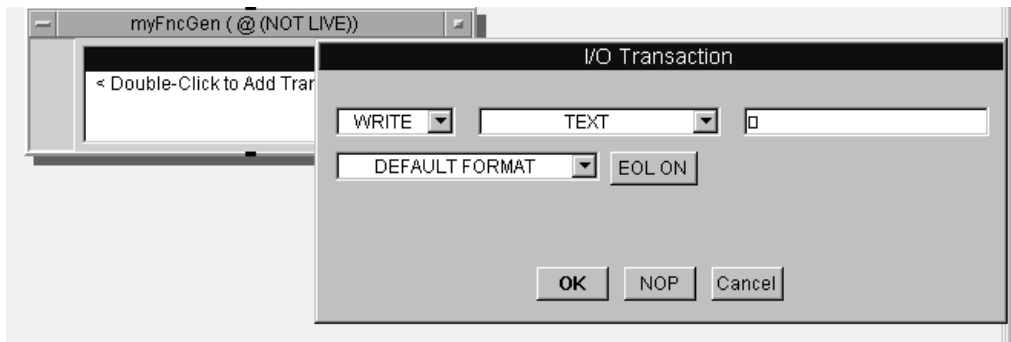

Figure 3.5. myFncGen and its I/O Transactions dialogb
14. Select Menu Bar => I/O => Instrument Manager; highlight myFncGen (@NOT LIVE) in the GPIB7 folder; click on Direct I/O. The object's sequence pins will be at the top and bottom of its Detail View. See Figure 3.5, left side.
15. Double-click on the myFncGen "Double-Click to Add Transaction" bar. The I/O Transaction box will appear. See Figure 3.5, right side.